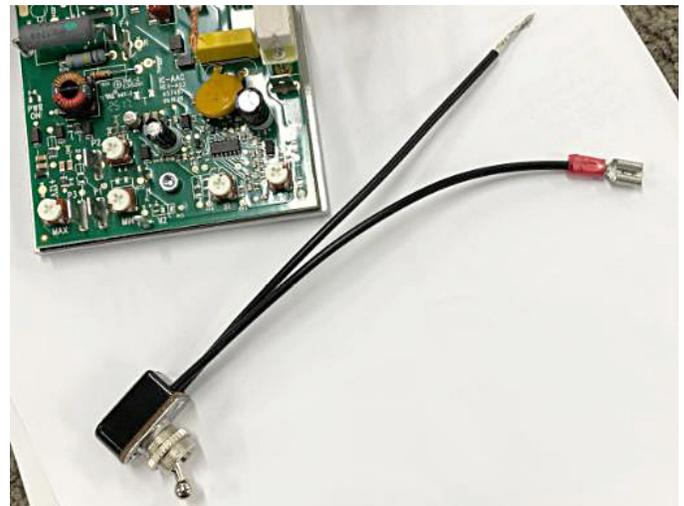
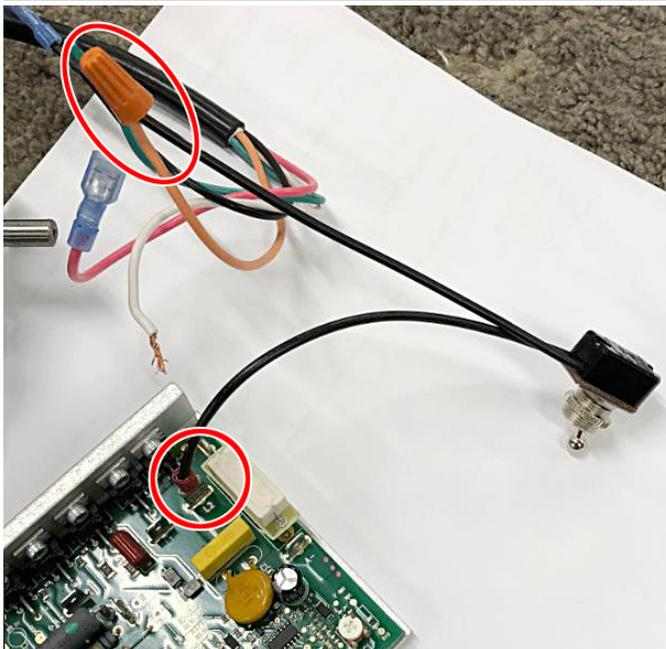

FIGURE 9
FIGURE 10
10. This is what your new toggle switch will look like (see Figure 9). The black wire with the spade connector goes on the L2 Pin. The other black wire is twisted together with the orange motor wire and then you screw on the wire nut (see Figure 10). Make sure that no bare wires are exposed from the wire nut.